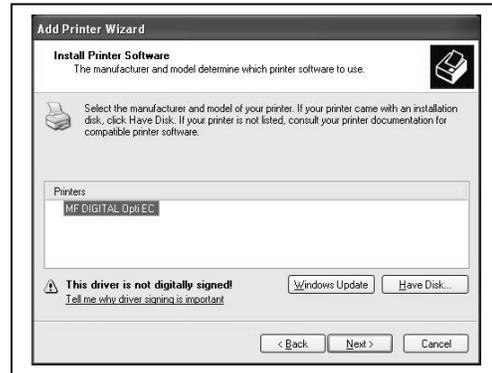

fig 7
7. After specifying the driver for the MF Digital OptiEC printer, the printer “MF Digital OptiEC” will appear in the “Add Printer Window” (fig 7). Click Next to continue.